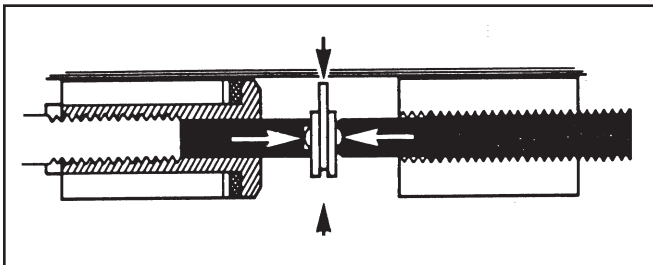

Figure 23. Forming a Rivet Head
6. Turn the spinner crank while slowly running the take-up handle inward (approximately one full revolution) until the rivet head is formed (Figure 23).